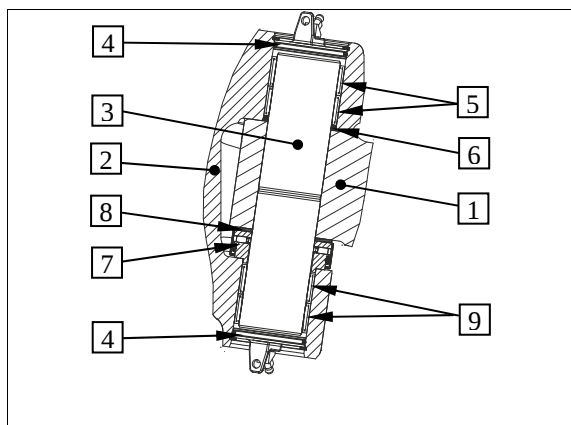

Figure 1
Observe installation position of the sliding bearing bush. Groove (arrow) must face the axial roller bearing (figure 1, item 7)
Press in seal ring (1) with special tool (part 1 and part 3) until contact is obtained (look at figure 1).